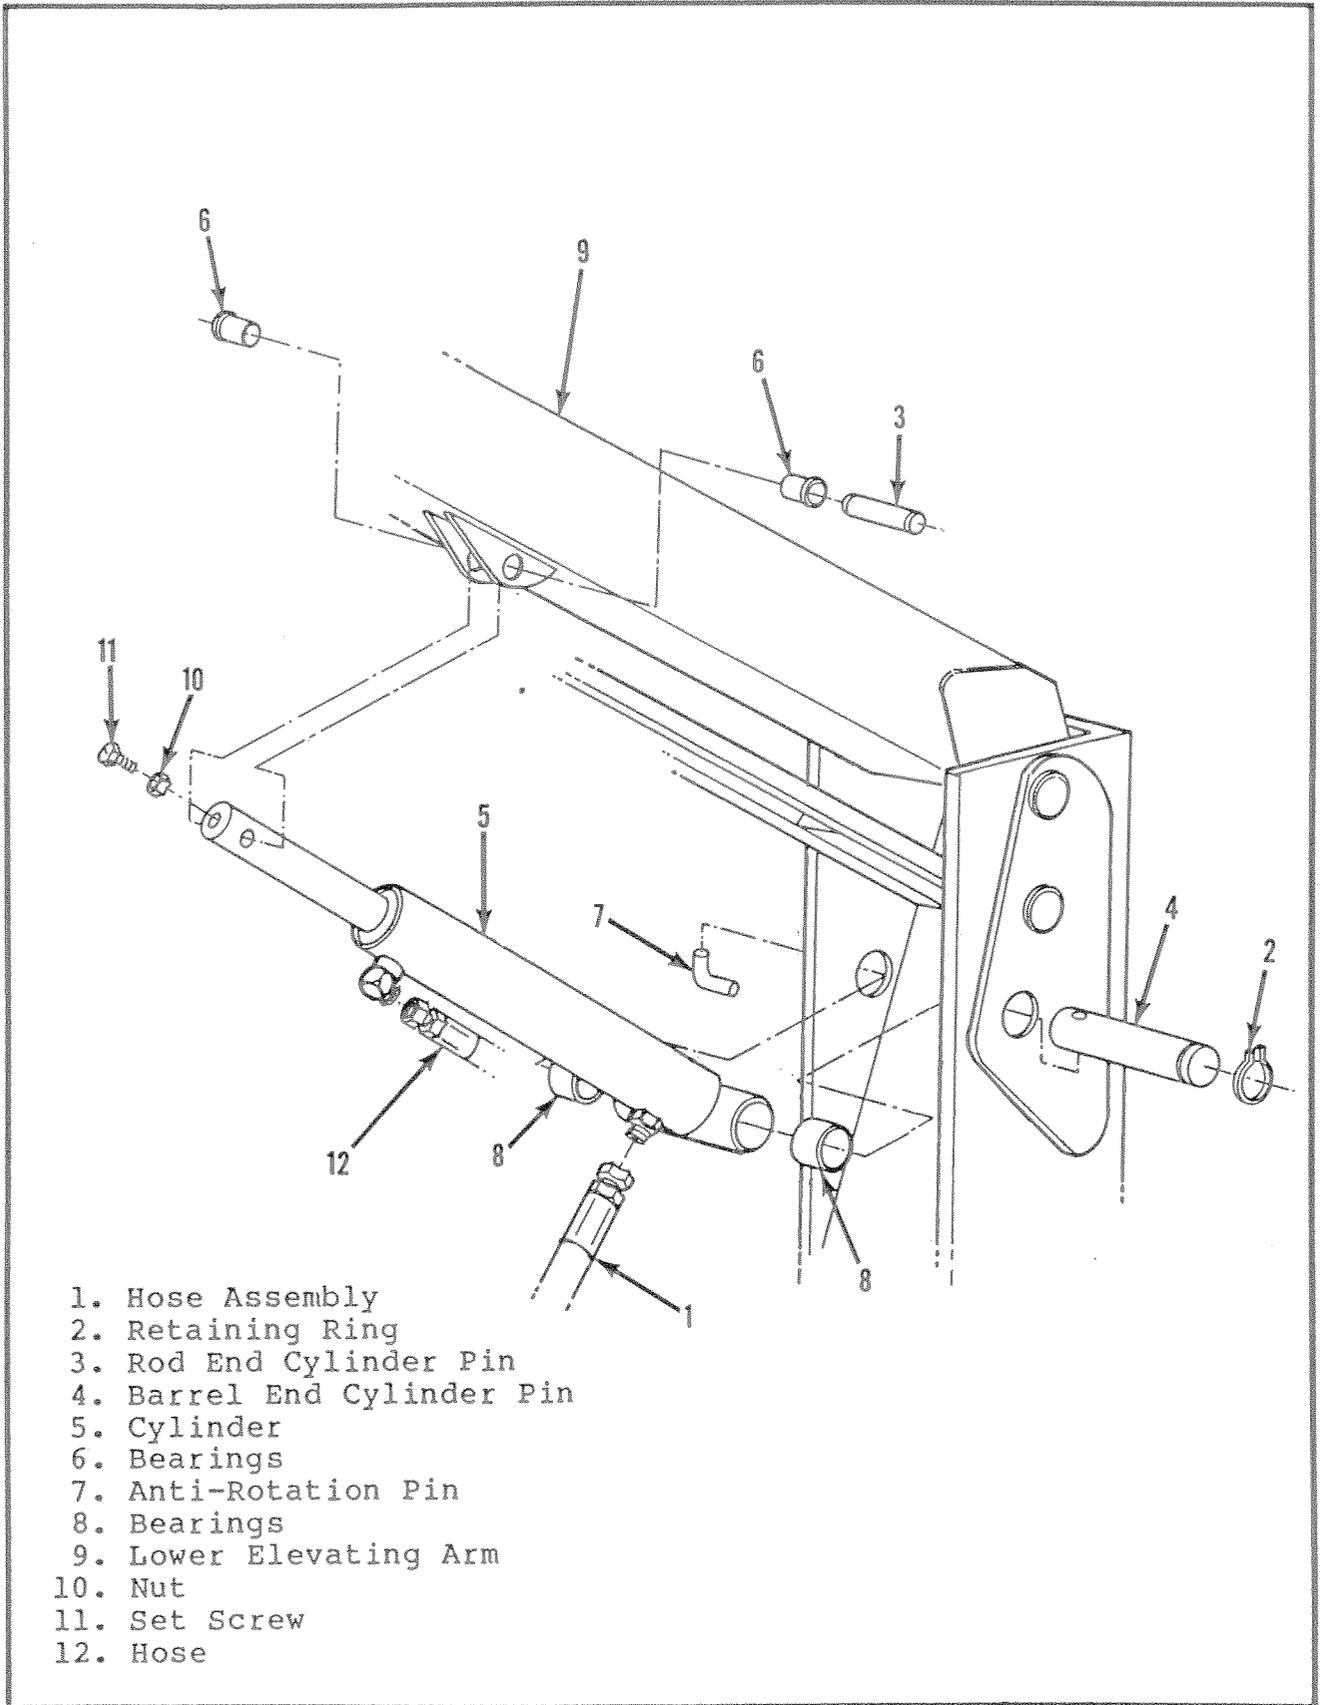
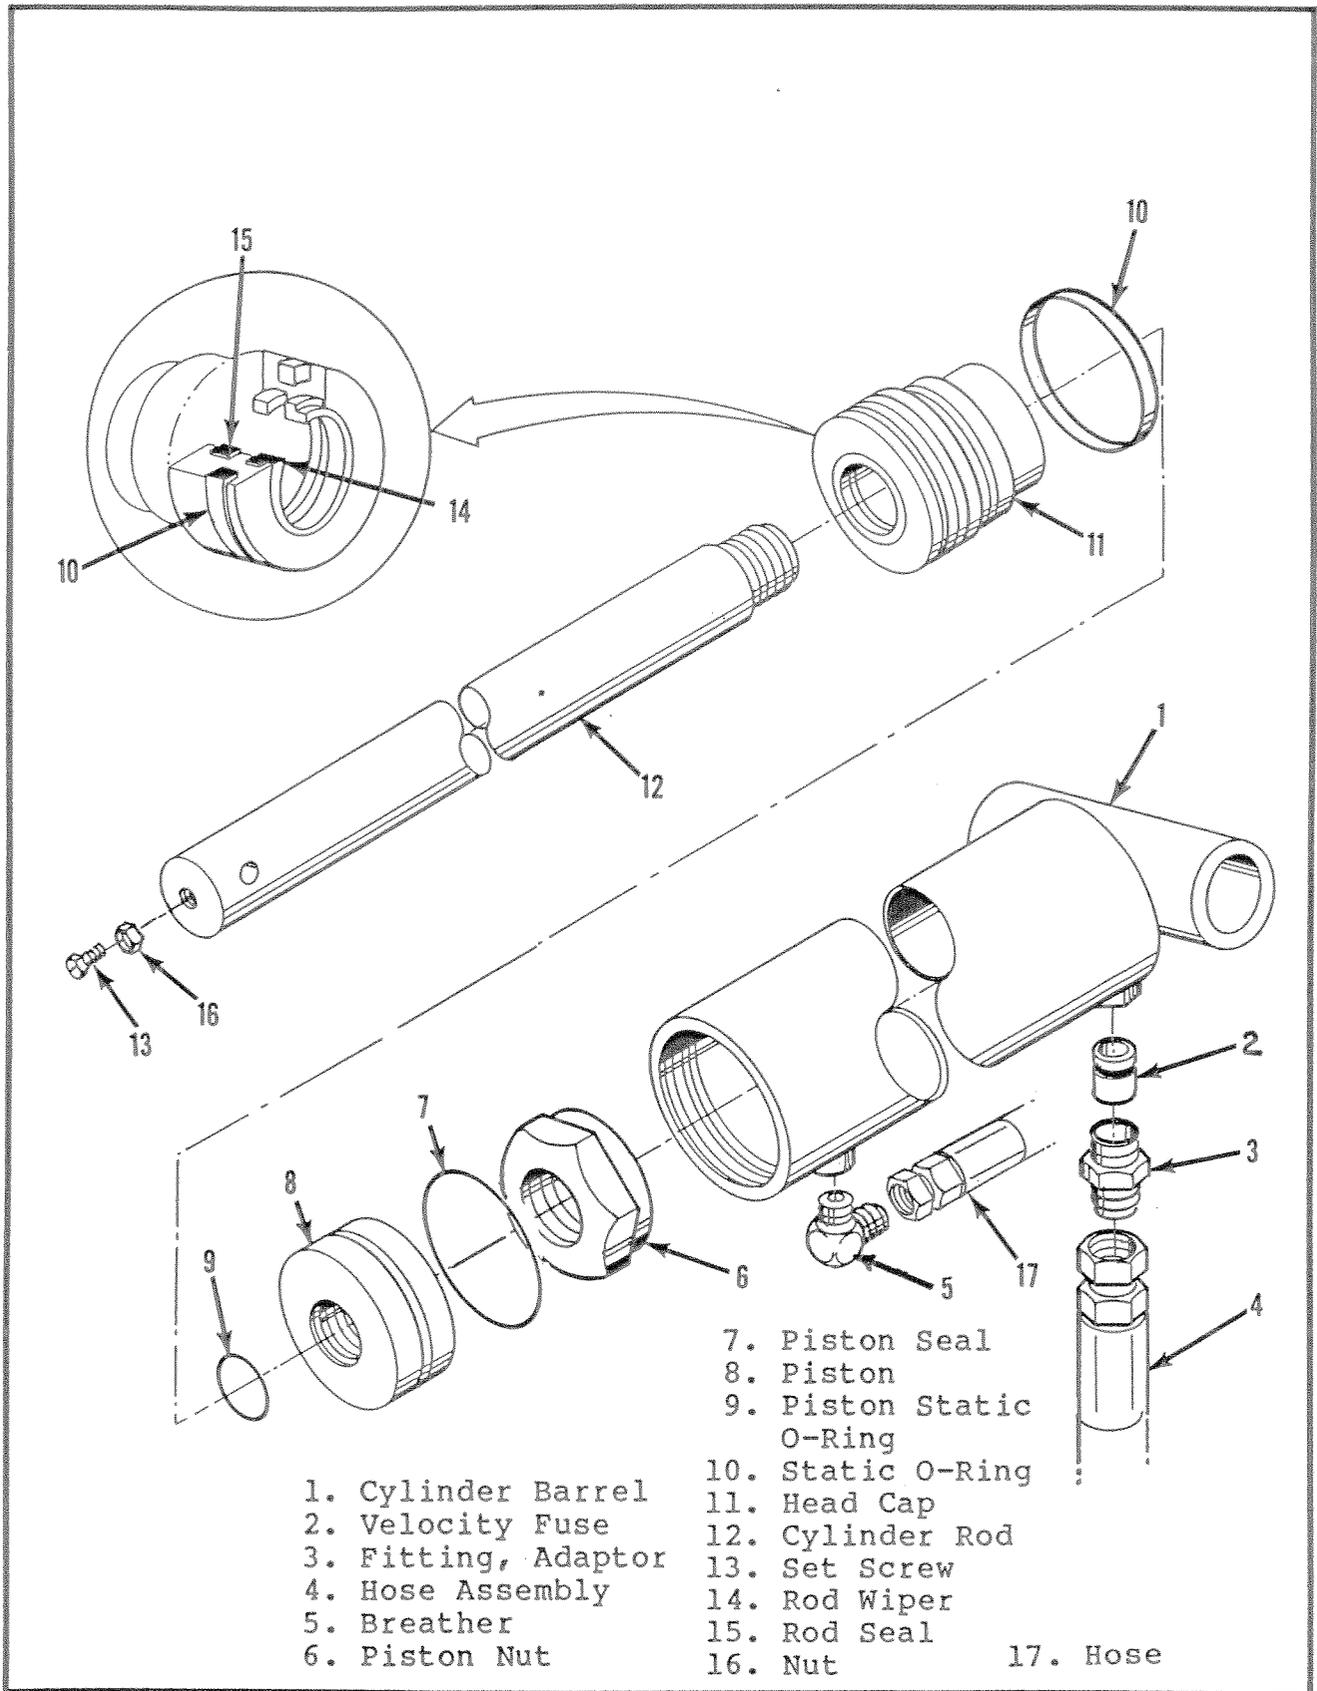

Figure 5-14. Lift Cylinder Removal
Figure 5-15. Lift Cylinder Disassembly/Assembly
a. Removal (Figure 5-14).
(1) Block elevating assembly per paragraph 5-5.
(2) Remove hose assembly (1) and plug openings.
(3) Remove retaining rings (2,3) from cylinder pins (4,5) and set screw (6) from end of cylinder rod.
(4) Place a 2 foot long 2 x 4 across module covers.
(5) Support rod end of cylinder and remove rod end cylinder pin (4) and let cylinder down to rest on 2 x 4.
(6) Support barrel end of cylinder and remove barrel end cylinder pin (5).
(7) Lift cylinder from work platform.
b. Disassembly (Figure 5-15).
(1) Unscrew the head cap (11) from the cylinder barrel (1).
(2) Remove the piston and rod assembly from the cylinder barrel.
(3) Unscrew the piston nut (6) and remove piston (8) and head cap (11) from the piston rod (12).
(4) Remove the piston static O-ring (9) from the cylinder rod (12) and discard.
(5) Remove the piston seal (7) from the piston (8) and discard.
(6) Remove the static O-ring (10), rod seal (15) and rod wiper (14).